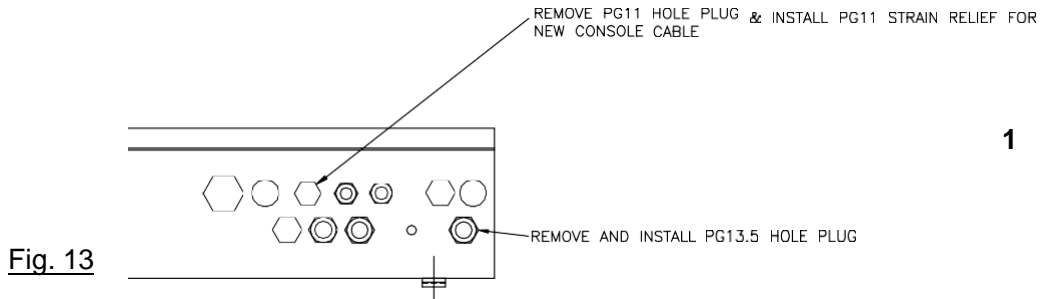

Fig. 13
1. Remove existing console cable and strain relief from the central unit and install PG13.5 hole plug using the existing nut. Remove existing PG11 hole plug. Install new PG11 strain relief using the existing nut. (Fig. 13)